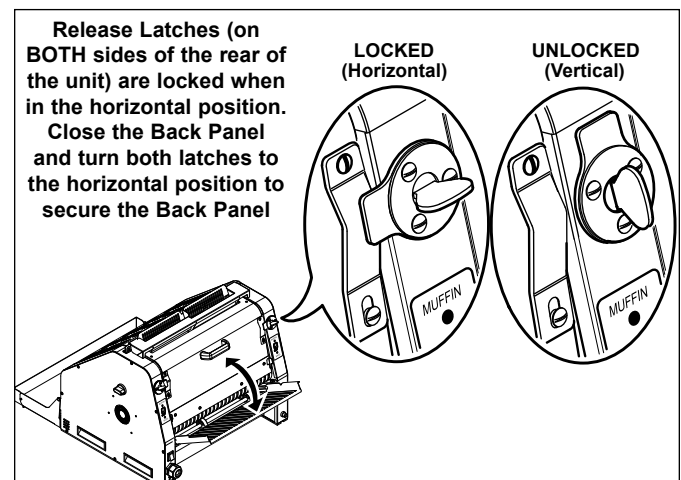

Figure 9. Back Panel Release Latches
9. Close the Back Panel and lock the Back Panel Release Latches (Figure 9).